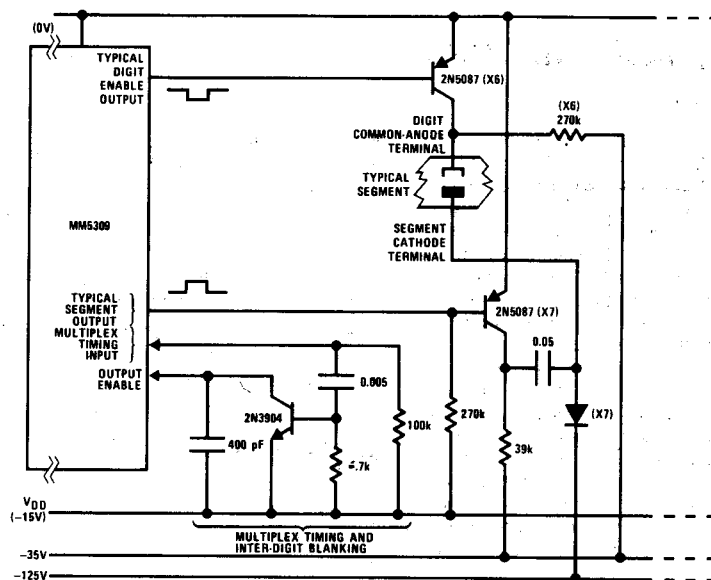

FIGURE 9. Interface Panplex II\* Neon Display Tube
**Output Circuits:** *Figure 5a* illustrates the circuit used for the BCD and 7-segment outputs. *Figure 5b* shows the digit enable output circuit. *Figure 6* illustrates interfacing these outputs to standard and low power TTL. *Figures 7 and 8* illustrate methods of interfacing these outputs to common anode and common cathode LED displays, respectively. A method of interfacing these clocks to gas discharge display tubes is shown in *Figure 9*. When driving gas discharge displays which enclose more than one digit in a common gas envelope, it is necessary to inhibit the segment drive voltage(s) during inter-digit transitions. *Figure 9* also illustrates a method of generating a voltage for application to the output enable input to accomplish the required inter-digit blanking.